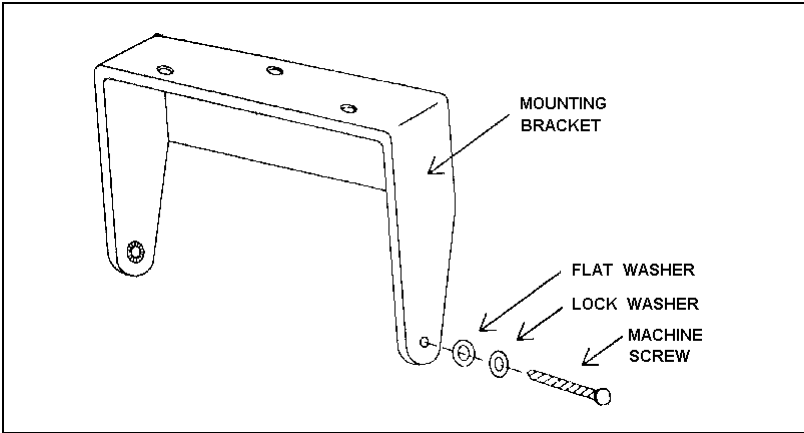

Figure 12 – Speaker Mounting
1. Use the mounting bracket as a template for locating the mounting holes and mount the speaker as shown in Figure 12.